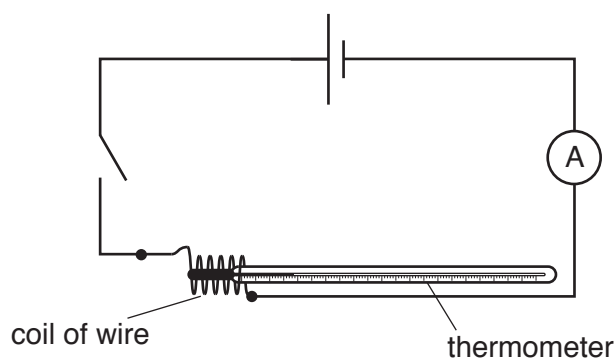

Fig. 4.1
The Supervisor should set up the circuit as shown in Fig. 4.1. When the switch is closed the reading on the ammeter should be at least 0.35 A.
- Check that the circuit is in the configuration shown in Fig. 4.1.